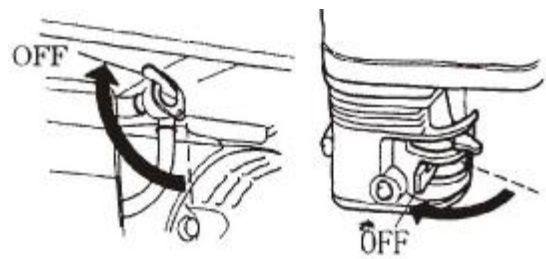

Fig. 36
6.2.4 Set the fuel switch to OFF position (Figure 36)